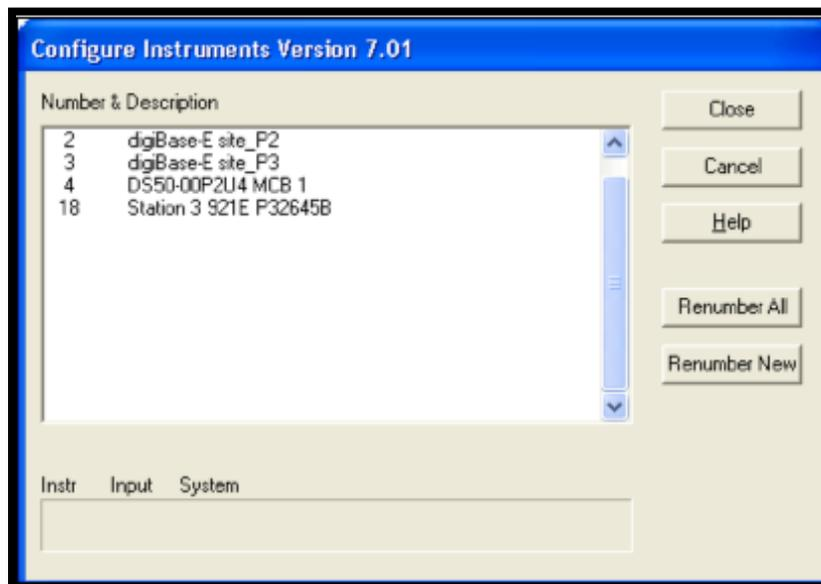

Figure 6. MCB Numbering and Descriptions
- 3) To start the software, enter **mcb** in the “search programs and files” box, then click on the **MCB Configuration** search result; or open the Windows Start menu and click **MAESTRO**, then **MCB Configuration**. The MCB Configuration program will locate all of the powered-on ORTEC MCBs on the local PC and the network and display the *Master Instrument List* of instruments found (Figure 6).